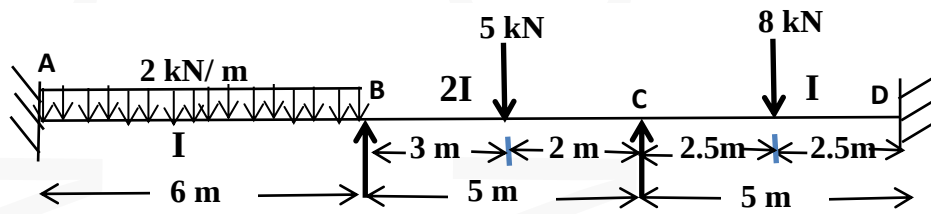

Fig.6
- 16 a) A continuous beam ABCD consists of three spans and is loaded as shown in fig.6. Ends A and D are fixed. Analyse the beam using moment distribution method and plot the bending moment diagram. 14